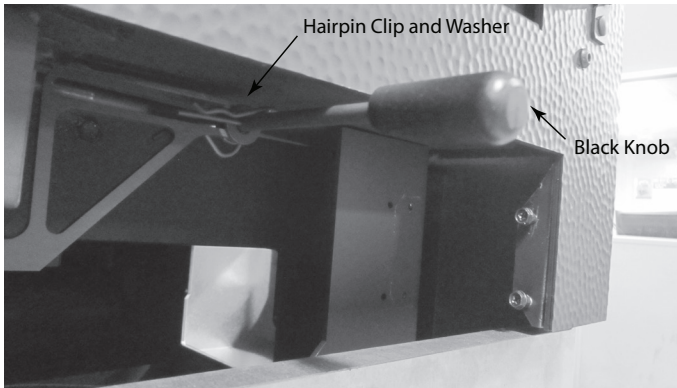

Figure 4.17 Removal of Handle
3. Unscrew and remove the black knob. See Figure 4.17.
4. Pull off and remove the front hairpin clip and washer on the rod. See Figure 4.17.